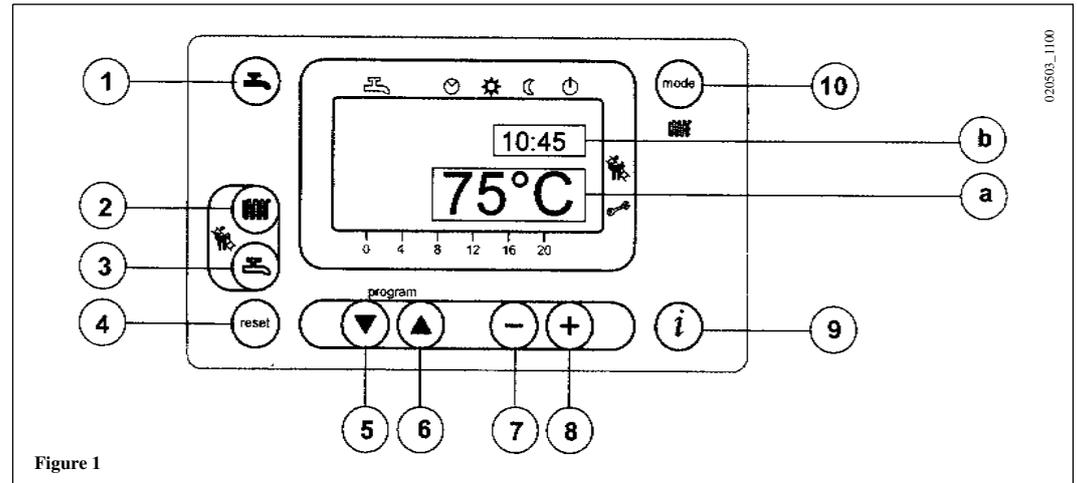
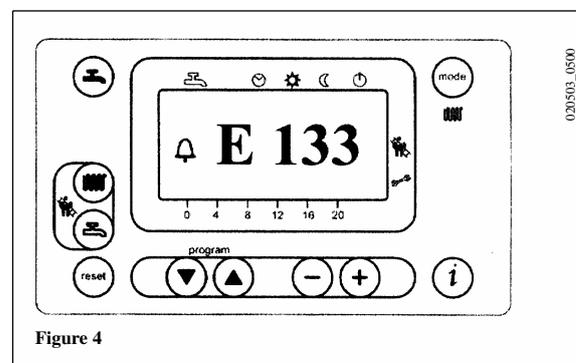
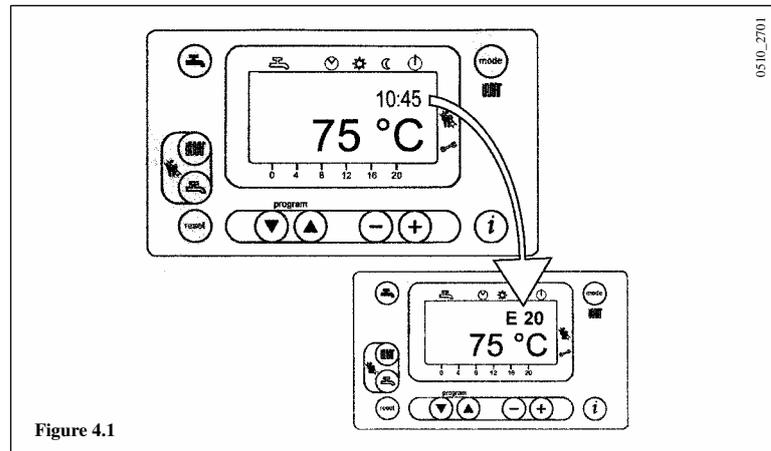

Figure 1
Figure 4
Figure 4.1
- Press the  key (2-figure 1) to set the central heating water temperature;
- press either of the   keys (1 or 10 - figure 1) to save and return to the main menu.
N.b – With the outdoor sensor probe connected, the  key (2 - figure 1) can be used to shift the central heating curve. Press the   keys to decrease or increase the room temperature in the premises to be heated.
- Press the  key (3-figure 1) to set the maximum domestic hot water temperature;
The fault warnings appear on the main display (figure 1 a) together with the symbol (Figure 4).
Fault warnings appear on the secondary display (figure 1 b) alternating with the tim flashing (figure 4.1). It is not possible to reset malfunction warnings which appear on display as the cause of the alarm has first to be removed.